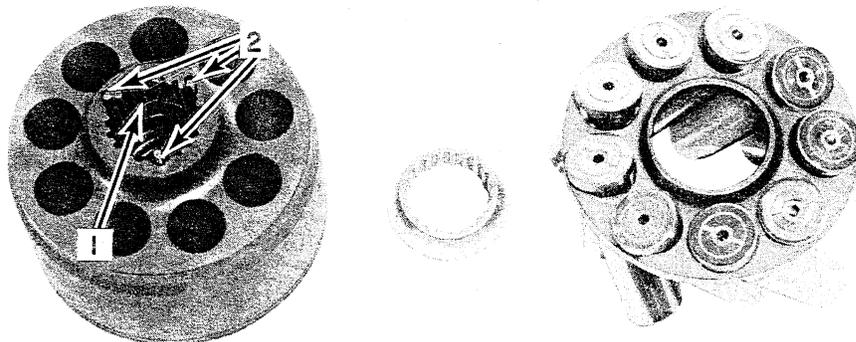

FIGURE 38
7. If the rotating piston block assembly was disassembled, use the following procedure to reassemble using Figure 38: